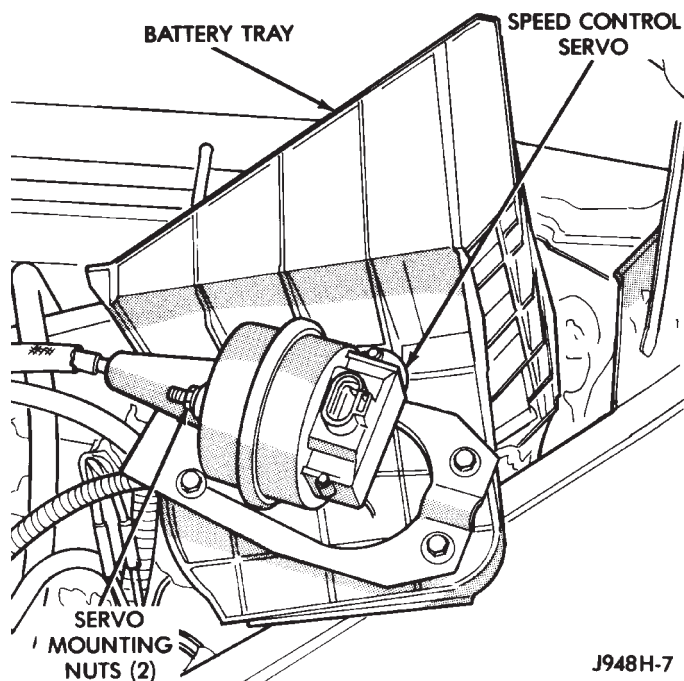
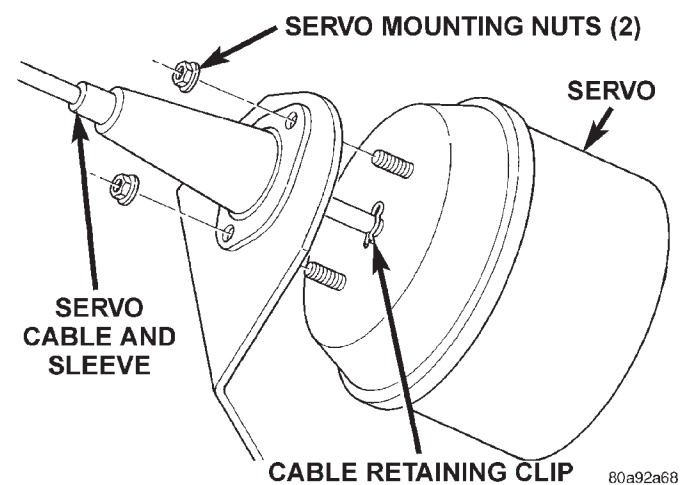

Fig. 9 Servo Mounting at Battery Tray
Fig. 10 Servo Cable Clip Remove/Install—Typical
(12) Position battery tray with attached servo assembly to gain access to 2 servo mounting nuts (Fig. 9) or (Fig. 10).
(13) Remove 2 mounting nuts holding servo cable sleeve to bracket (Fig. 10).
(14) Pull speed control cable sleeve and servo away from servo mounting bracket to expose cable retaining clip (Fig. 10) and remove clip. Note: The servo mounting bracket displayed in (Fig. 10) is a typical bracket and may/may not be applicable to this model vehicle.
(15) Remove servo from mounting bracket.